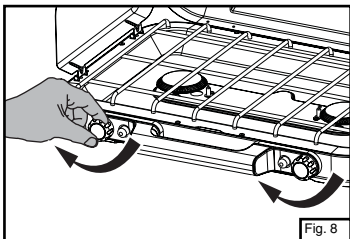

Fig. 8
- Close both burner valves firmly. (Fig. 8)